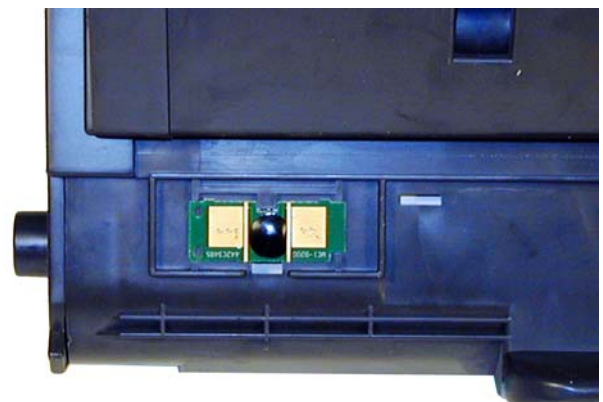

Figure 69
55) Replace the chip. See **Figure 69**